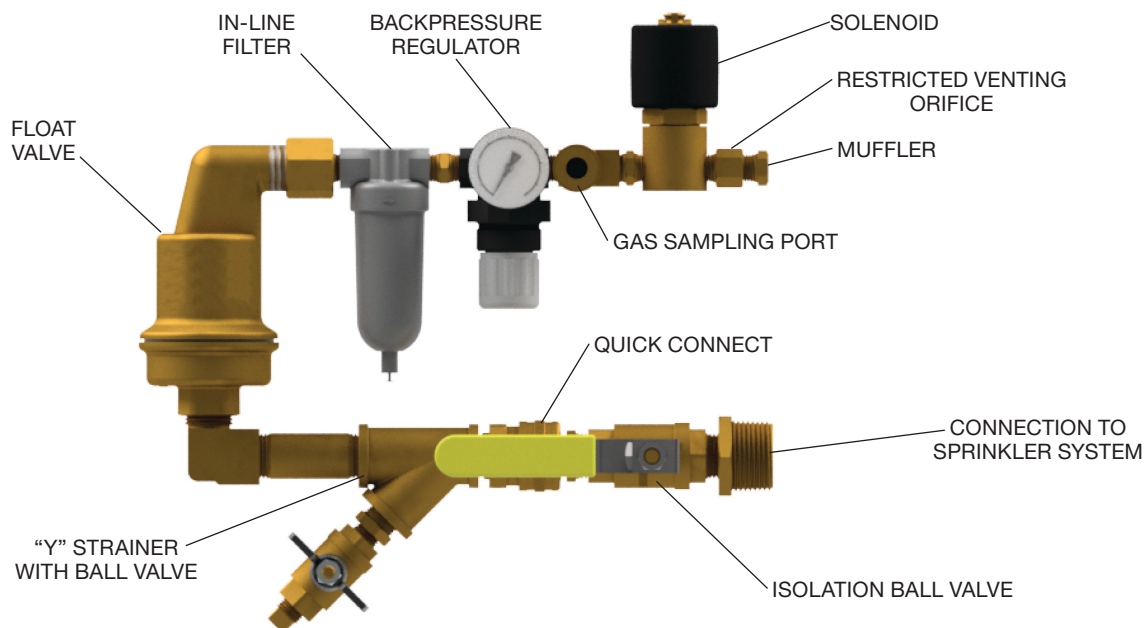

FIGURE 2
Step 1. Install a 1 in. outlet (welded or mechanical) to connect the vent assembly to the sprinkler system on the system side of the main control valve, as shown in Figure 2. The isolation ball valve shall remain in the closed position until the Nitrogen Generator System is commissioned.